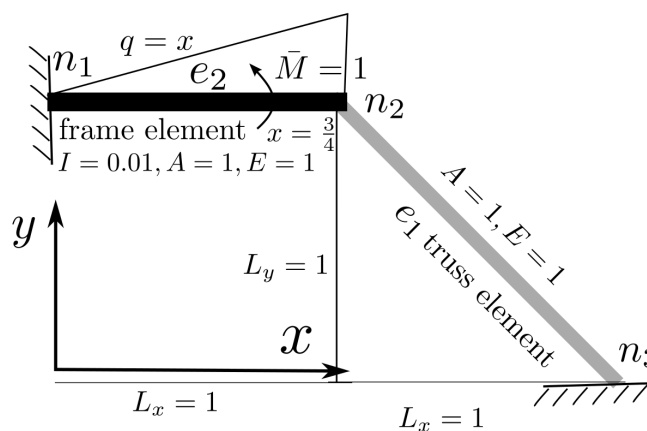

Figure 3: Frame and truss example.
- (a) Obtain the stiffness matrix for finite element method, using equation (373) in section 2.2 of course notes. **(10 Points)**
4. **This problem is NOT counted in your grade, but I still keep it if anyone wants to work on it and return it for feedback.** For the truss shown in figure the prescribed dofs are:  $\bar{U}_1 = \bar{U}_2 = \bar{U}_4 = \bar{U}_5 = 0; \bar{U}_3 = \frac{1}{10}$ . For all four truss members  $E = 1, A = 1$ . Other information is provided in the figure 3.